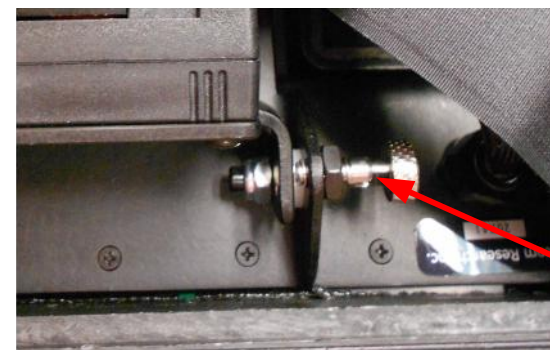

Figure 3
3. Unlock the radio mounting bracket by pulling on the locking pin and turning ¼ turn cw or ccw (see Figure 3).